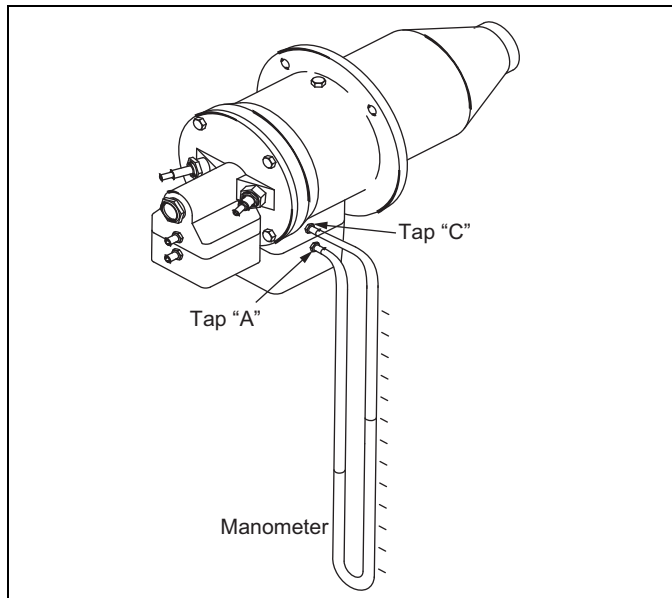

Figure 4.2. Set High Fire Air
3. Set high fire air using the instructions for either a single burner system or multiple burner system below. (See Figure 4.2)
Step 2: Set High Fire Air (Figure 4.2)